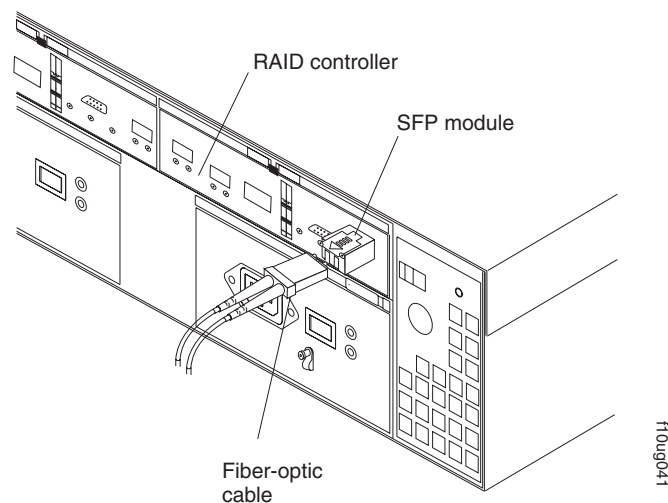

Figure 29. Installing an SFP module into the host port
4. Insert the SFP module into the host port until it clicks into place. See Figure 29.